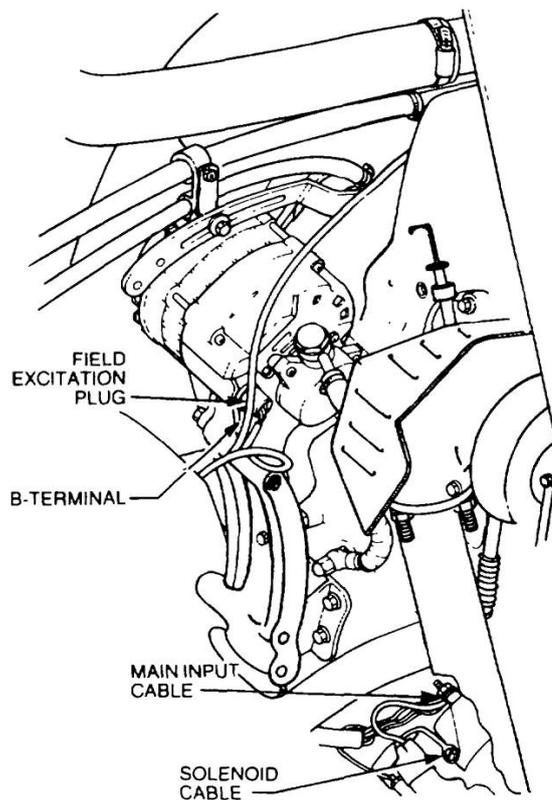

Figure 13 Installation of the Alternator and Starter Motor Cables
- p. Connect the main input cable and the solenoid cable to the starter motor (Figure 13).
- q. Connect the cable to the B-terminal of the alternator (Figure 13) and connect the field excitation plug to the socket at the rear of the alternator.